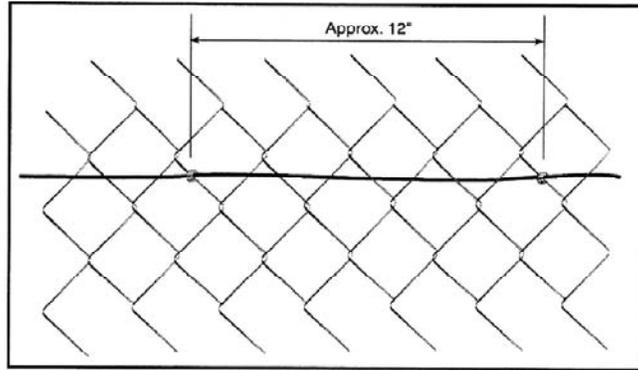

Figure 12. Cable Tie Installation
- Attach the sensor cable to the fence at approximate 12-inch intervals with black UV cable ties as shown in Figure 12. Use ONLY the approved black UV-protected cable ties.